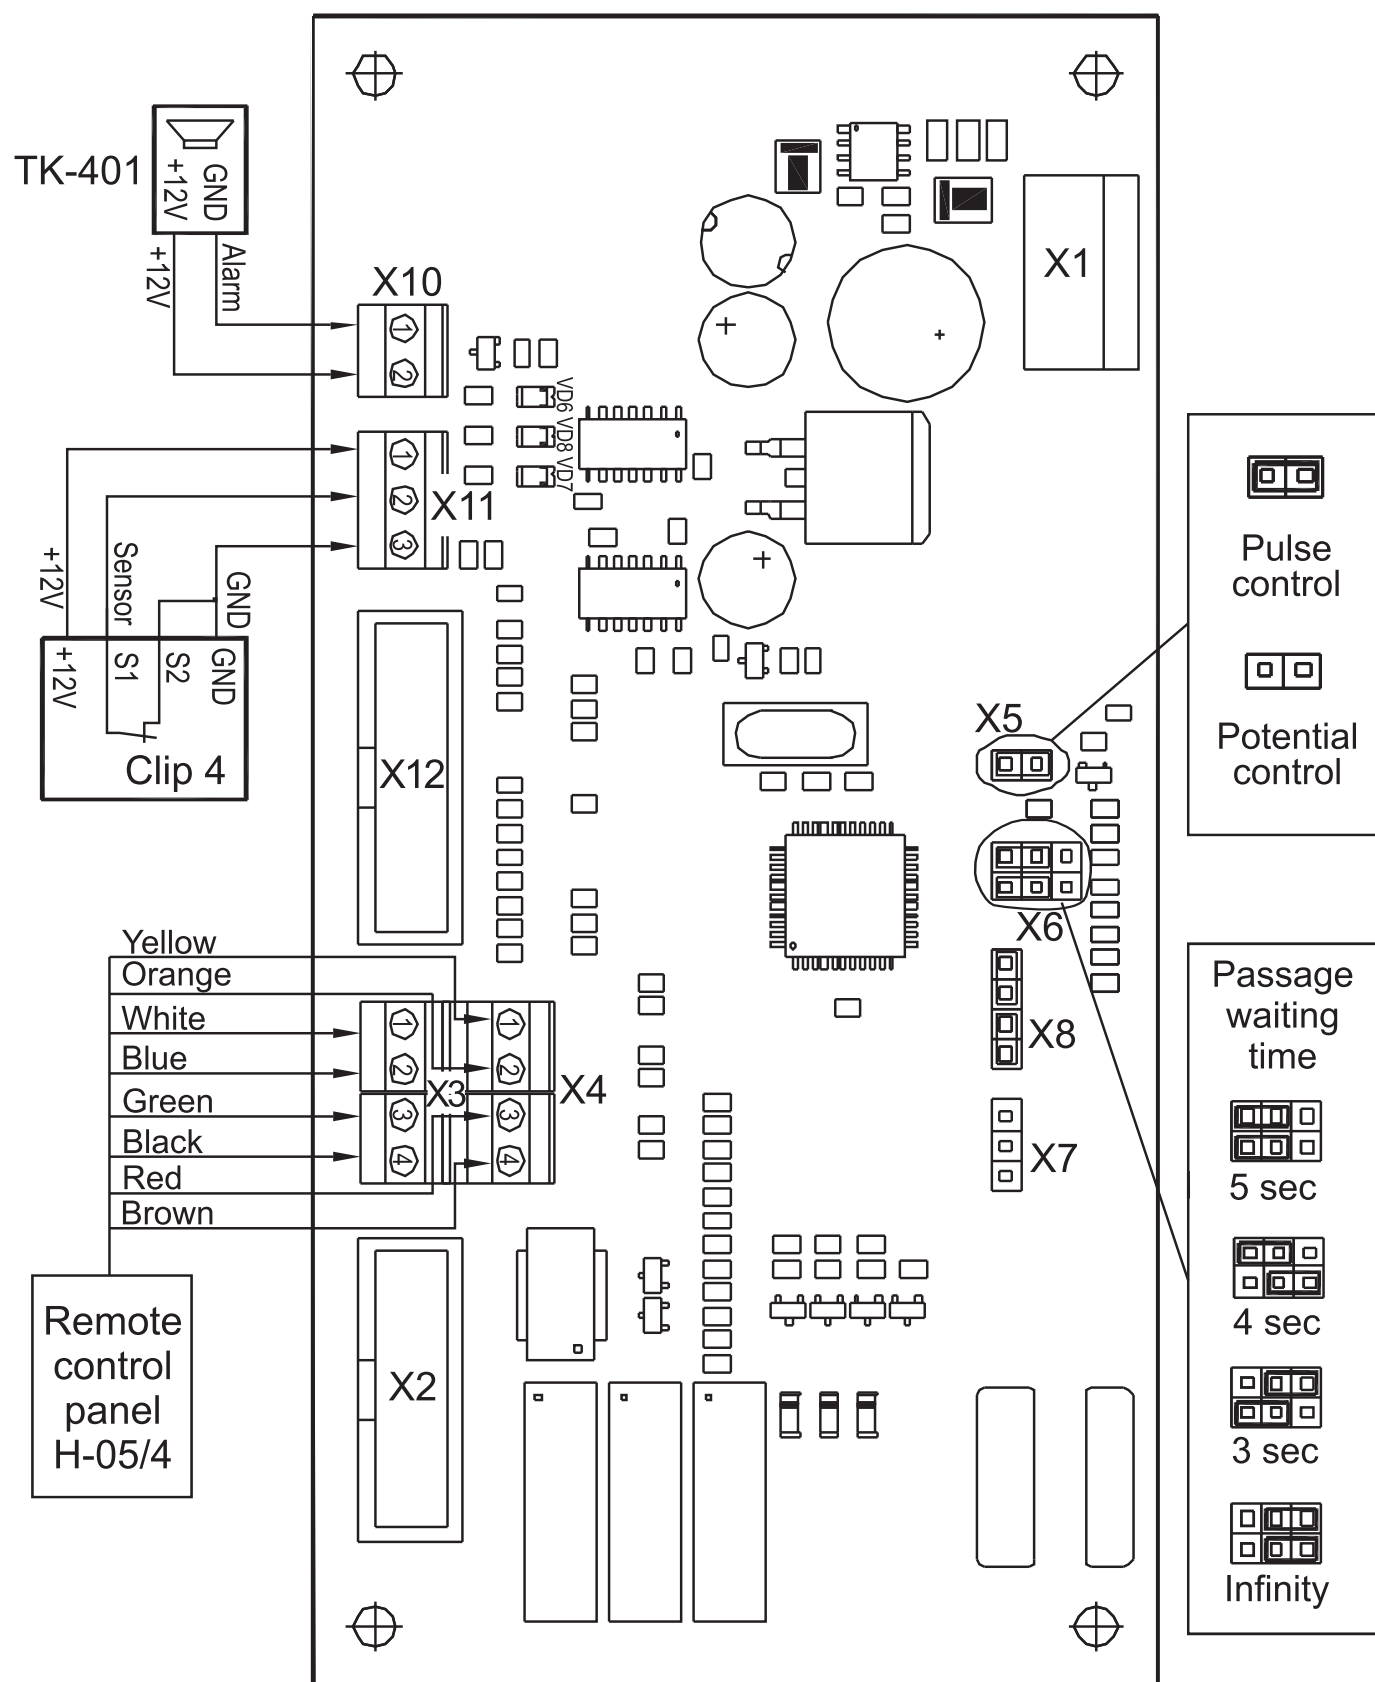
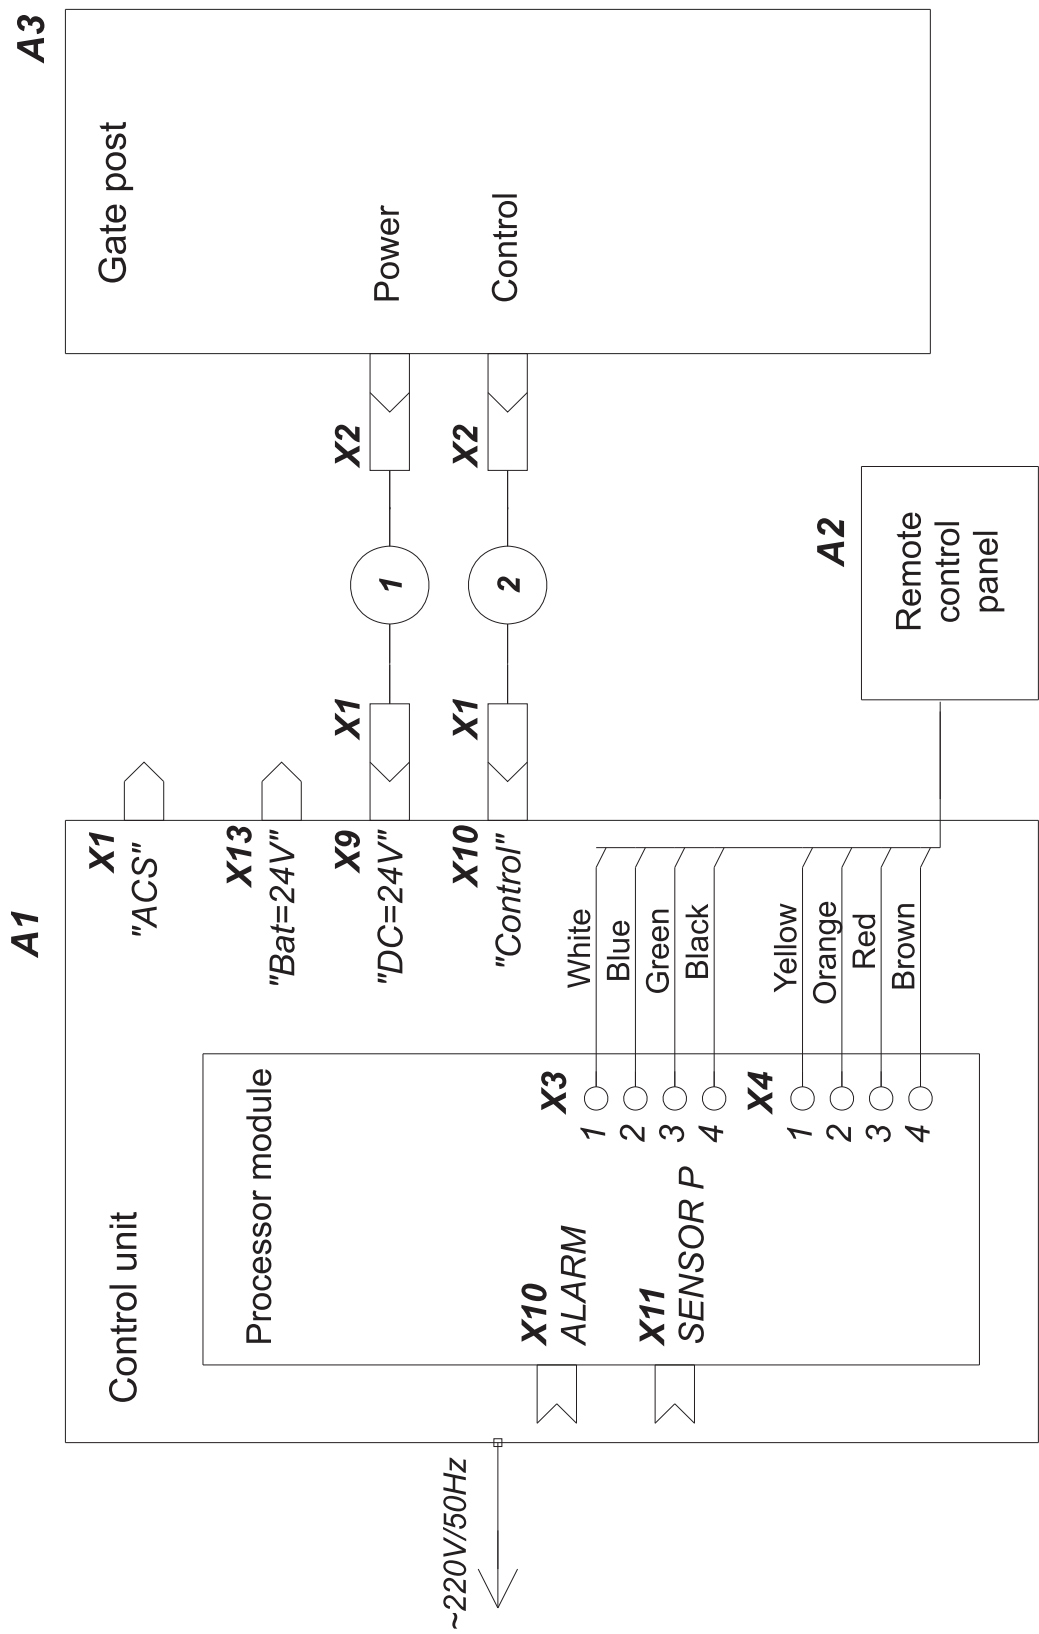

Figure 1A. Control Logic Board of the CU
Figure 1B. WMD-04.3S connection layout
- pull the remote control panel cable (12) through the RC cable entry inside the CU and connect to the X3, X4 connector blocks of the processor module (Fig. 1A, Appendix A; Fig. 1B, Appendix B).
7.2.7 Connection of an intrusion detector^{*} and a siren^{*} to the CU (8) is carried out in accordance with Figure 1A, Appendix A. The equipment location depends on the entrance layout.
The CU contains the Control Logic Board (the CLB) shown in Fig. 1A that performs the wicket gate control.
To change the passage waiting time, it is necessary to fix jumpers on the X6 connector as shown in Fig. 1A.
When operated from the ACS, control over the wicket gate can be carried out in either pulse or potential control mode. Either control mode is set by a jumper on the X5 connector of the CU CLB as shown in Fig. 1A.
The remote control panel is connected to the connector blocks X3 and X4 as shown in Fig. 1A.